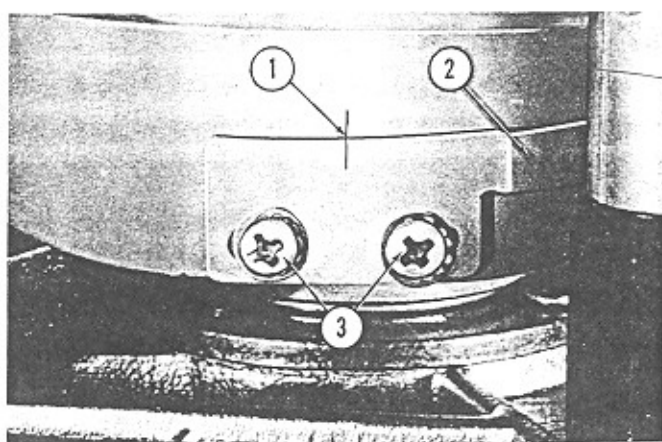

Fig. 32. MUTE AND PLAY SWITCH TIMING
The cam lobe (Item 2, Fig. 32) that operates the mute and play switch is mounted to the lateral surface of the main cam by two locking screws (Item 3). It is adjustable to permit advance or delay in the action of the mute and play switch. Item 1 shows index lines on the main cam and on the adjustable lobe for mute and play switch operation. Adjustment of this lobe as shown is accurate in the majority of cases, however, the following procedure may be used to check the accuracy of the setting or, if necessary, to re-adjust:
a. Set the "Mute and play" cam lobe so that the timing marks align as shown in Fig. 32.